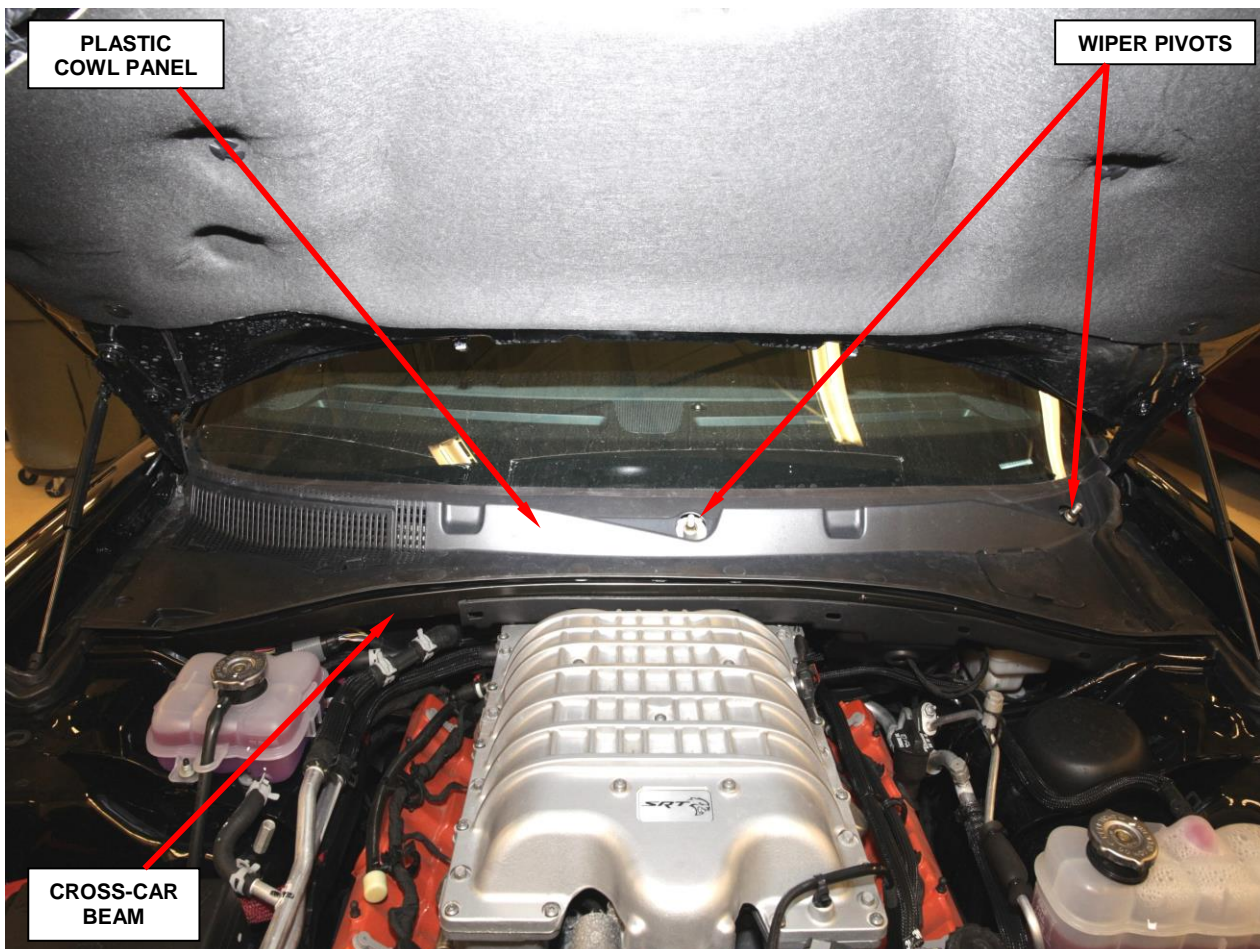

Figure 4 – Cowl Panel
- a. Remove and save the windshield wiper arms (Figure 4).
- b. Remove and save the plastic cowl panel (Figure 4).